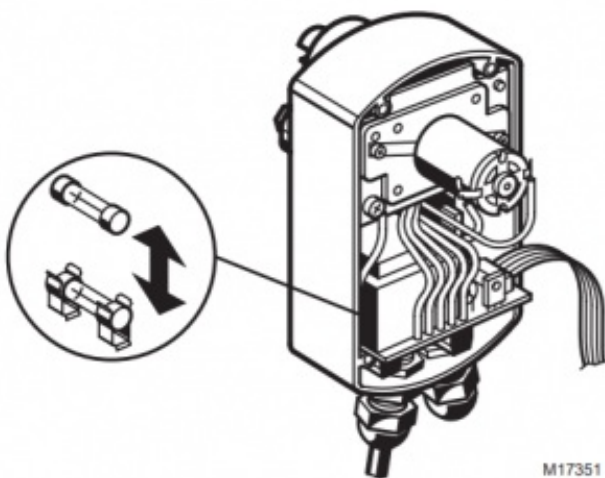

Fig. 13. Replacing the MV876 fuse.
3. Remove and discard the old fuse (see Fig. 13).